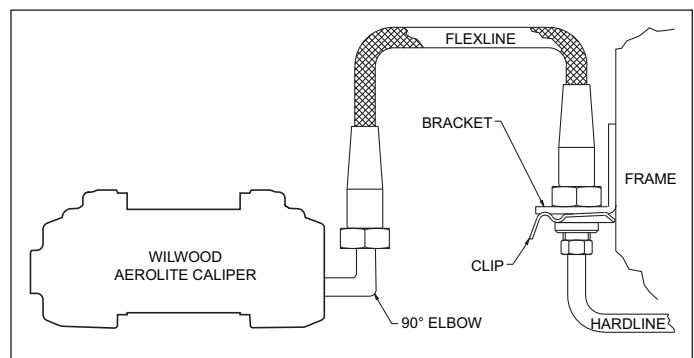

Figure 4. Brake Line Diagram
- Install Wilwood's optional stainless steel braided flexline hose kit, part number 220-8176 (C-5) or 220-9100 (C-6) (NOT included in kit), see Figure 4. **Carefully route lines to prevent contact with moving suspension, brake or wheel components.** Wilwood hose kits are designed for use in many different vehicle applications and it is the installer's responsibility to properly route and ensure adequate clearance and retention for brake hose components.